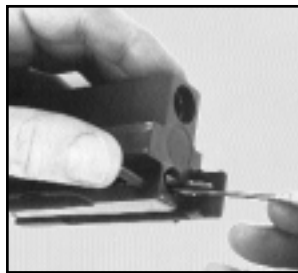

Fig. 31
- Using any pointed object push firing pin forwards (Fig. 31).